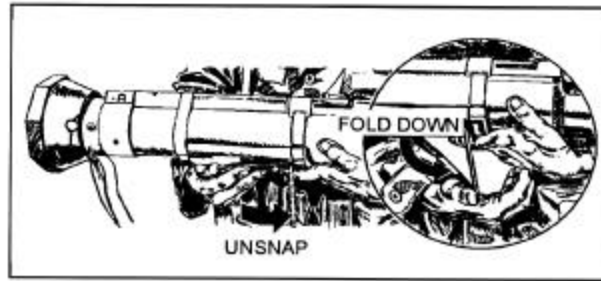

Figure 4-5. Unsnapping the shoulder stop.
- c. Unsnap and unfold the shoulder stop (Figure 4-5).